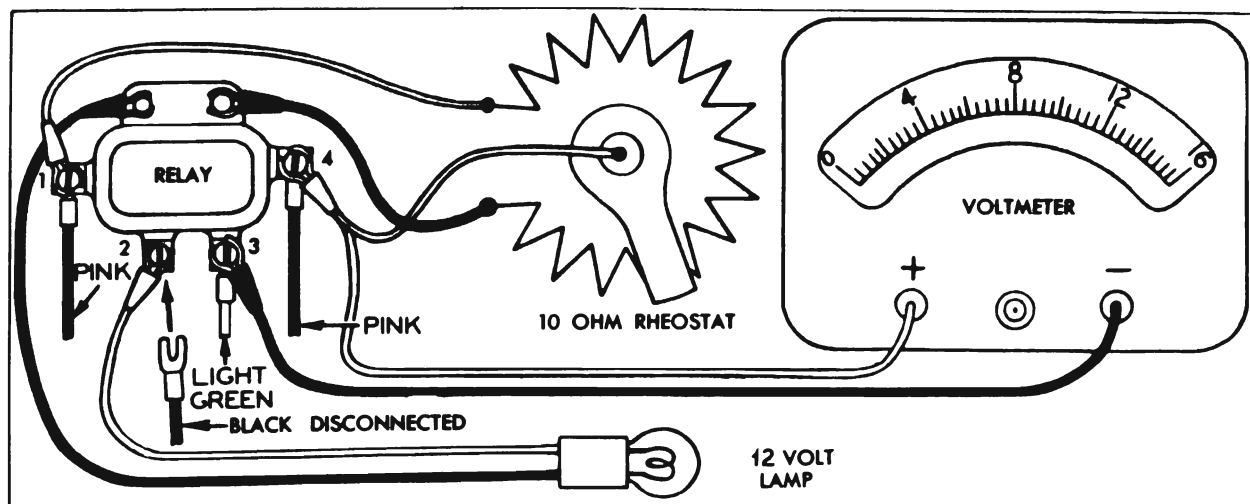
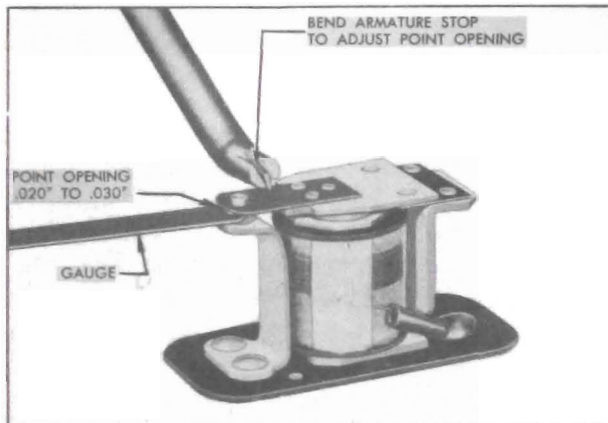

Figure 10-34—Solenoid Switch Relay Test Connections
Figure 10-36—Relay Contact Point Adjustment
1. With ignition switch turned off, remove black wire from relay terminal marked (2) in figure 10-34.
2. Connect 12-volt test lamp between relay terminal marked (2) and ground on relay mounting bolt.
3. Connect lead attached to rotating arm of rheostat to relay terminal marked (4). Connect one resistance lead to relay terminal marked (1) and connect the opposite lead to relay mounting bolt. See figure 10-34.
3. With armature free, check contact point opening with feeler gauges. Point opening should be between .020" and .030" and may be adjusted, if necessary, by bending the upper armature stop. See figure 10-36.
4. Connect the positive terminal of a 12-volt battery to relay terminal marked (1); connect the negative terminal of battery to relay terminal marked (3) and also to ground on relay mounting bracket.
5. Connect a 12-volt test lamp, low reading voltmeter and 10 ohm rheostat to relay terminals as shown in figure 10-34.